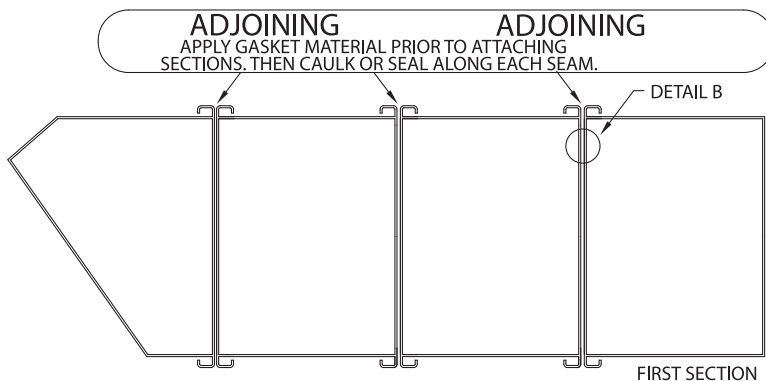

FIGURE 1
1. Apply gasket material to the end of the first section (blower, discharge, heater, etc). (See Fig. 1.)
3. Once the sections are connected, apply caulking or silicone sealant along the standing roof seam (Fig. 3) and side seams where the sections come together. (Fig.1) It is mandatory to seal the roof and side seams along the entire outside of the unit, and it is strongly suggested that the seams also be sealed along the inside of the unit, if possible.